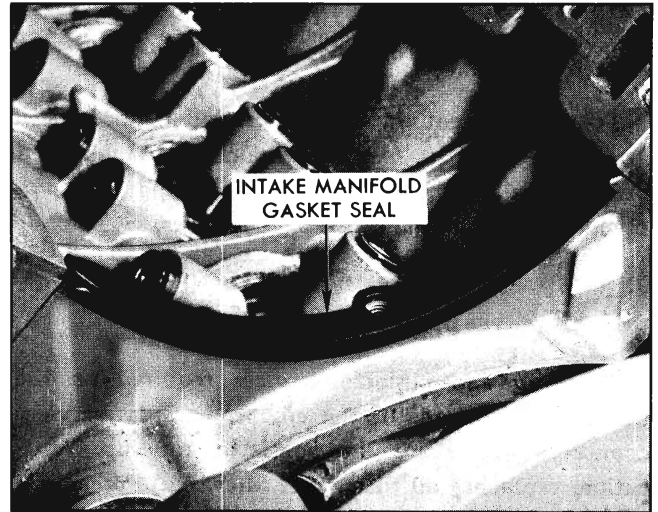

Fig. 6-77 Intake Manifold Gasket Seal
13. Remove rubber gasket seals (Fig. 6-77).
1. Install new manifold gasket seals as shown in Fig. 6-77. Make sure the ends of the seals fit properly in the notches provided in the block.